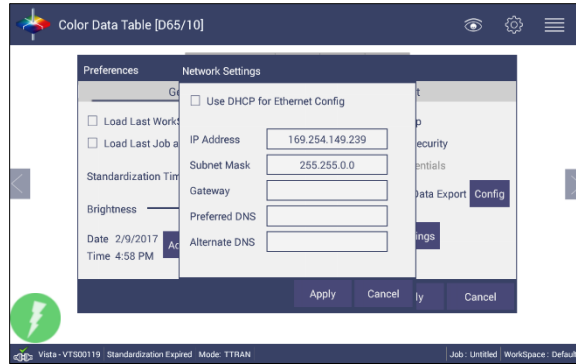

Figure 93. Configuration Parameters for Ethernet
- Configure the Ethernet port of Vista. Select **Jobs Menu > Preferences** and Select **Config Network Settings**. Uncheck the box next to “Use DHCP for Ethernet Configuration” as shown in Figure 93. Enter a valid IP address for the Ethernet port. In this example, the following parameters are selected.